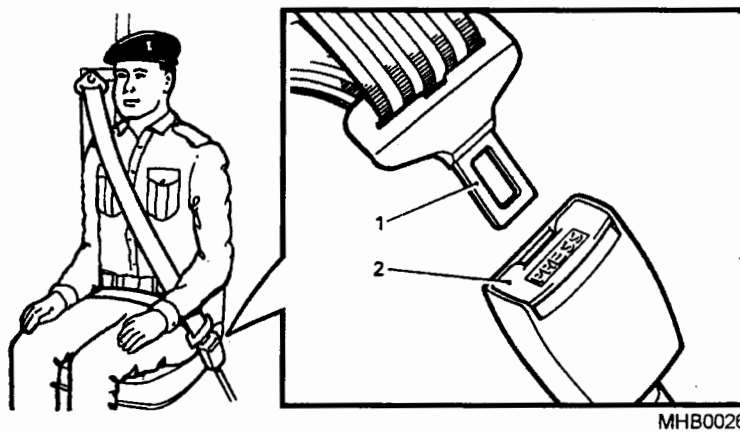

Fig 5 Seat belt operation
13.3 To fasten, draw the tongue of the belt (Fig 5 (1)) over the shoulder and across the chest, then push it into the engagement/release slot. A positive click indicates that the belt is locked.